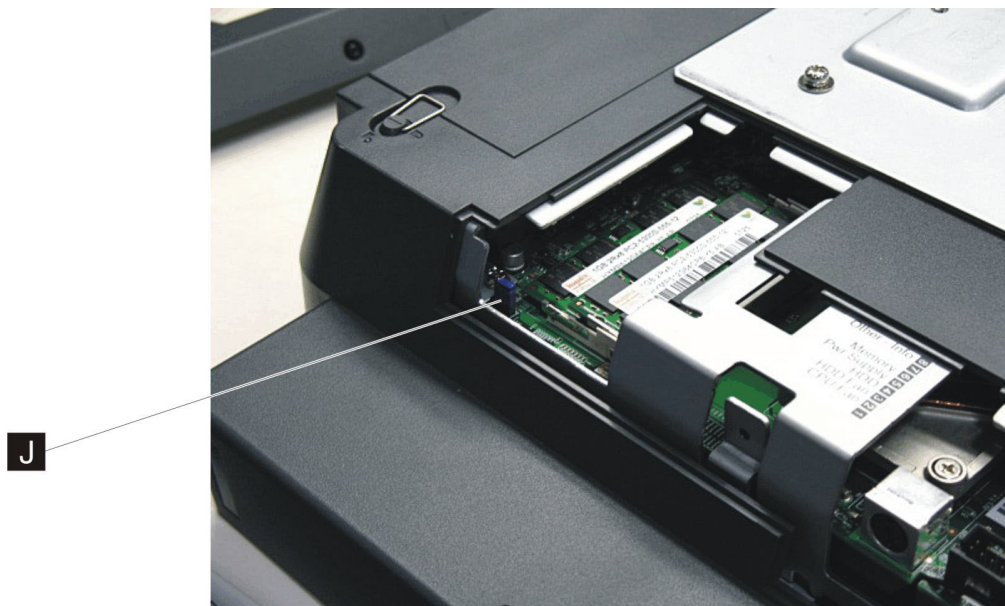

Figure 29. Location of the CMOS jumper
4. Locate the blue CMOS jumper near the memory card. See **J** in Figure 29.